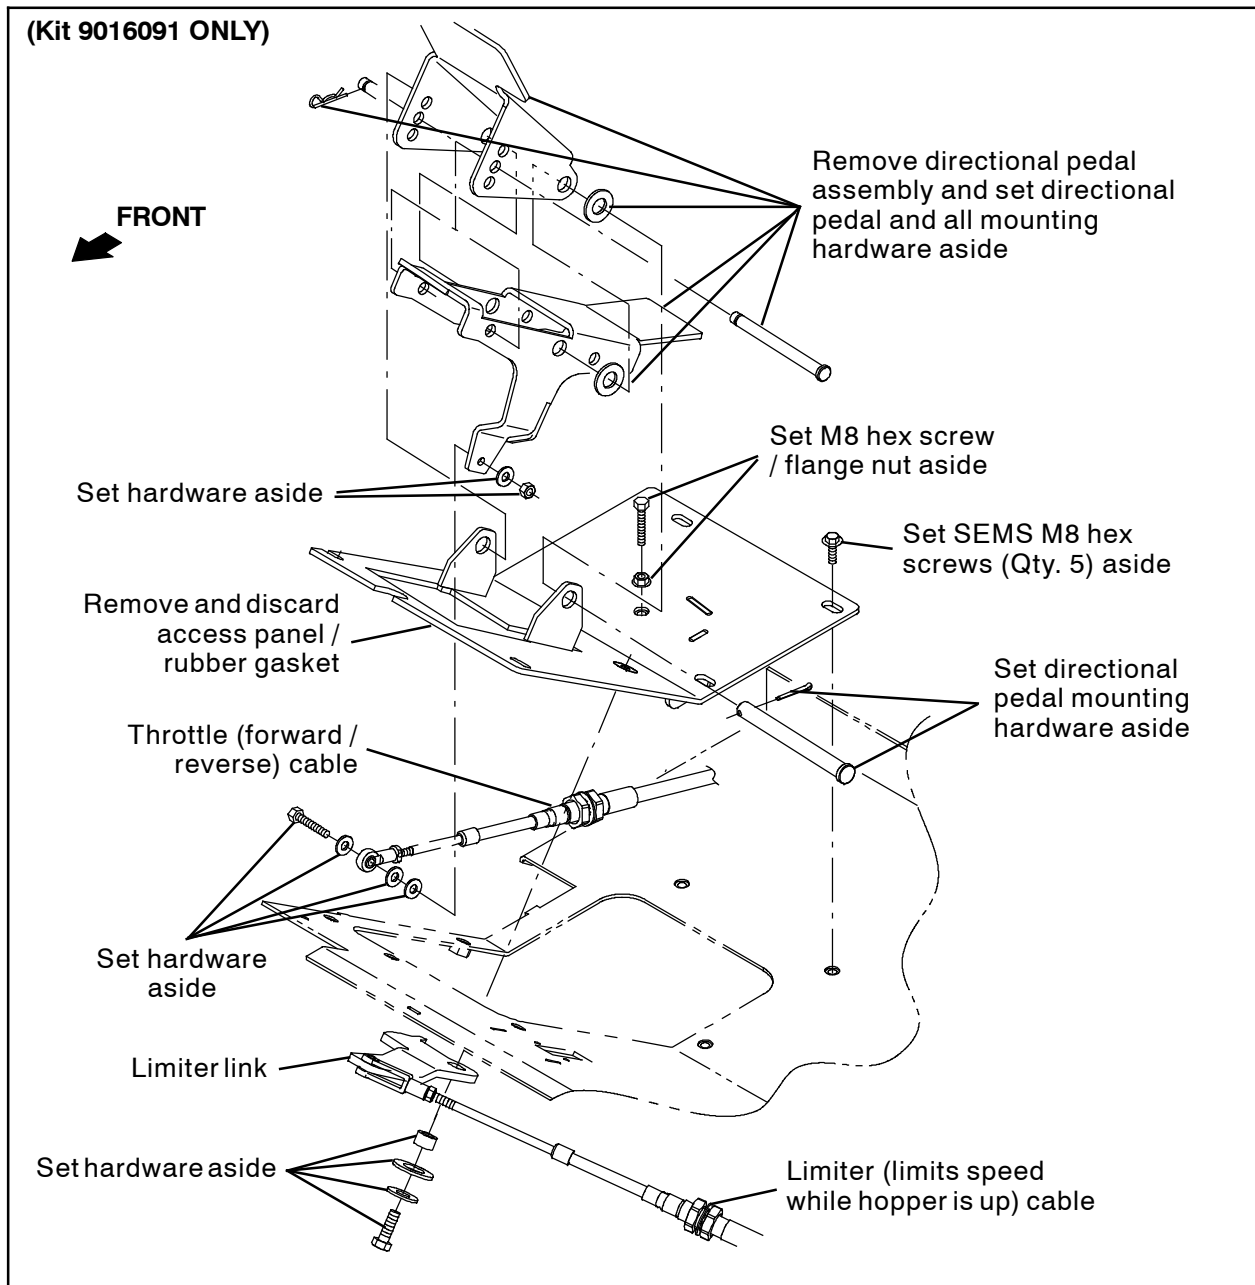
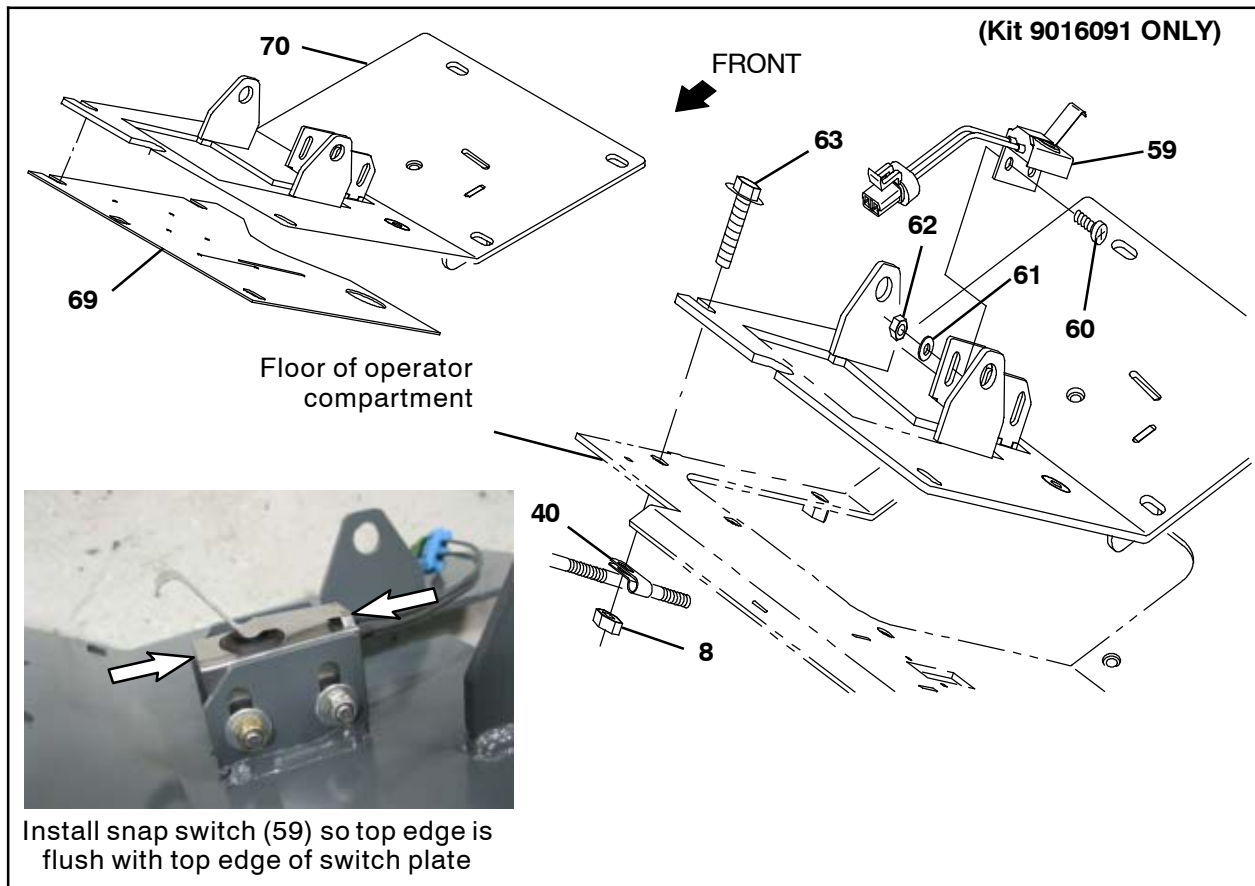
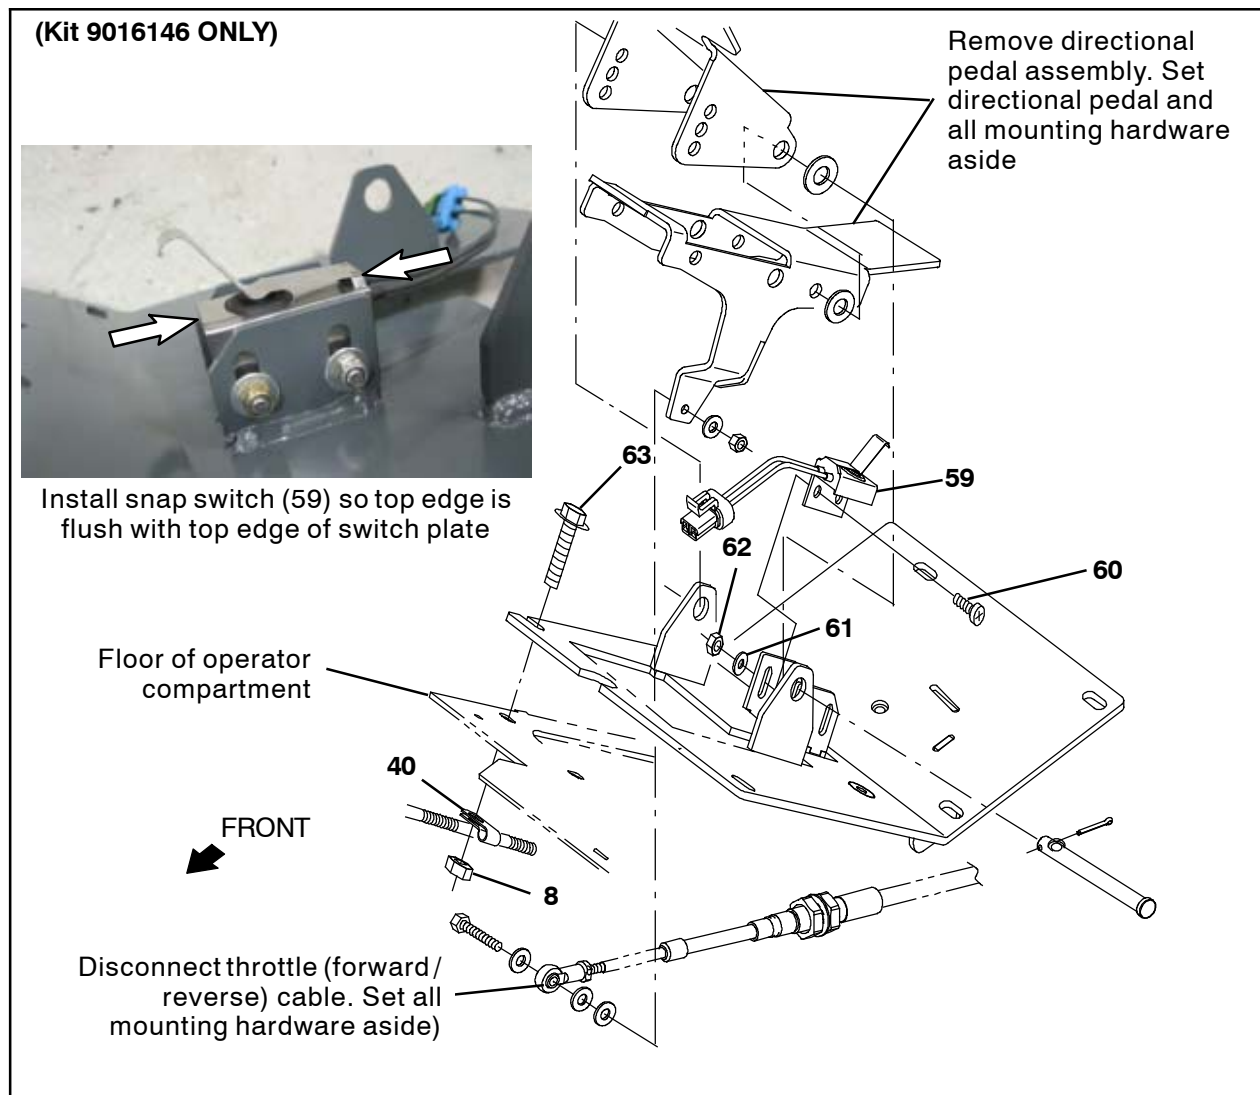

FIG. 13
FIG. 14
FIG. 15
76. **(Kit 9016091 ONLY):** Remove the hardware securing the limiter link / limiter cable to the access panel. Set all removed hardware aside. (Fig. 13)
77. **(Kit 9016091 ONLY):** Remove the hardware securing the throttle cable to the directional pedal. Set all removed hardware aside. (Fig. 13)
78. **(Kit 9016091 ONLY):** Remove the access panel from the floor of the operator compartment. Set the five SEMS M8 hex screws aside. (Fig. 13)
79. **(Kit 9016091 ONLY):** Remove the directional pedal assembly from the access panel. Set the directional pedal and all mounting hardware aside. (Fig. 13)
80. **(Kit 9016091 ONLY):** Remove the M8 hex screw and flange nut from the access panel. Set the M8 hex screw and flange nut aside. Discard the access panel / rubber gasket. (Fig. 13)
81. **(Kit 9016091 ONLY):** Use two M5 pan screws (60), two flat washers (61), and two M5 lock hex nuts (62) to install the snap switch (59) onto the new access panel (69). (Fig. 14)
82. **(Kit 9016091 ONLY):** Remove the connector from the snap switch (59). Set the connector aside. (Fig. 14)
83. **(Kit 9016091 ONLY):** Route the snap switch (59) wires through the rectangular hole next to the switch plate in the access panel (69) where the snap switch is installed, and reconnect the connector to the snap switch (59) wires. (Fig. 14)
84. **(Kit 9016091 ONLY):** Apply adhesive to the rubber gasket (70) and install the rubber gasket onto the access panel (69). (Fig. 14)
85. **(Kit 9016091 ONLY):** Reinstall the directional pedal assembly onto the access panel (69). (Fig. 13)
86. **(Kit 9016091 ONLY):** Reinstall the M8 hex screw and flange nut onto the access panel (69). (Fig. 13)
87. **(Kit 9016091 ONLY):** Use a SEMS M8 hex screw (63) and M8 hex nut (8) to install the cable clamp (40) onto the access panel (69). Do not tighten M8 hex screw or M8 hex nut. These items are tightened later when cable connections are completed. (Fig. 14)
88. **(Kit 9016091 ONLY):** Set the access panel (69) into the operator compartment. (Fig. 14)
89. **(Kit 9016091 ONLY):** Use saved SEMS M8 hex screws to secure the access panel (69) into the operator compartment. (Fig. 14 / Fig. 13)
90. **(Kit 9016091 ONLY):** Reconnect the throttle cable to the directional pedal assembly. (Fig. 13)
91. **(Kit 9016091 ONLY):** Reconnect the limiter link / limiter cable to the access panel. (Fig. 13)
93. **(Kit 9016146 ONLY):** Remove the hardware securing the limiter link / limiter cable to the access panel. Set all removed hardware aside. (Fig. 15)
94. **(Kit 9016146 ONLY):** Remove the directional pedal assembly from the access panel. Set the directional pedal and all mounting hardware aside. (Fig. 15)
95. **(Kit 9016146 ONLY):** Use two M5 pan screws (6), two flat washers (61), and two M5 lock hex nuts (62) to install the snap switch (59) onto the new access panel (69). (Fig. 15)
96. **(Kit 9016146 ONLY):** Remove the connector from the snap switch (59). Set the connector aside. (Fig. 15)
97. **(Kit 9016146 ONLY):** Route the snap switch (59) wires through the rectangular hole next to the switch plate in the access panel (69) where the snap switch is installed, and reconnect the connector to the snap switch (59) wires. (Fig. 15)
98. **(Kit 9016146 ONLY):** Use a SEMS M8 hex screw (63) and M8 hex nut (8) to install the cable clamp (40) onto the access panel. Do not tighten M8 hex screw or M8 hex nut. These items are tightened later when cable connections are completed. (Fig. 15)
99. **(Kit 9016146 ONLY):** Reinstall the directional pedal assembly onto the access panel (69). (Fig. 15)
100. **(Kit 9016146 ONLY):** Reconnect the throttle cable to the directional pedal assembly. (Fig. 15)
- 127. Use the SEMS M8 hex screw (63), cable clamp (40), and M8 hex nut (8) to secure the wet dust harness (66) to the access panel (69). (Fig. 14 / Fig. 15)